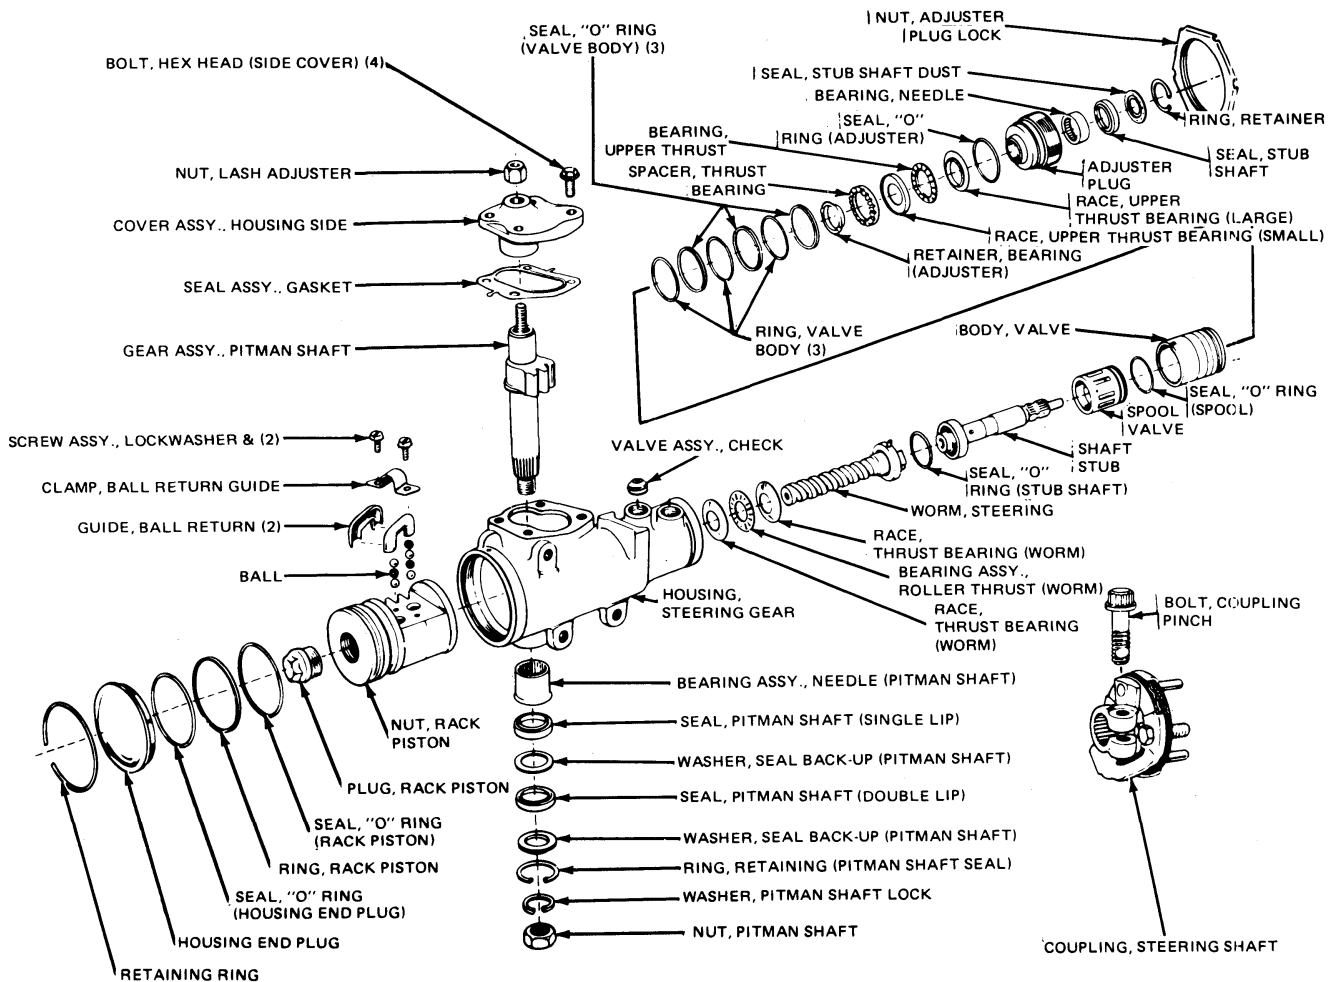

FIG. 19 Steering Gear Disassembled
6. Turn the rack-piston end plug (Fig. 19) counterclockwise out of the piston using a 1/2-inch drive extension.
1. Lift the adjuster plug off the stub shaft (Fig. 19).